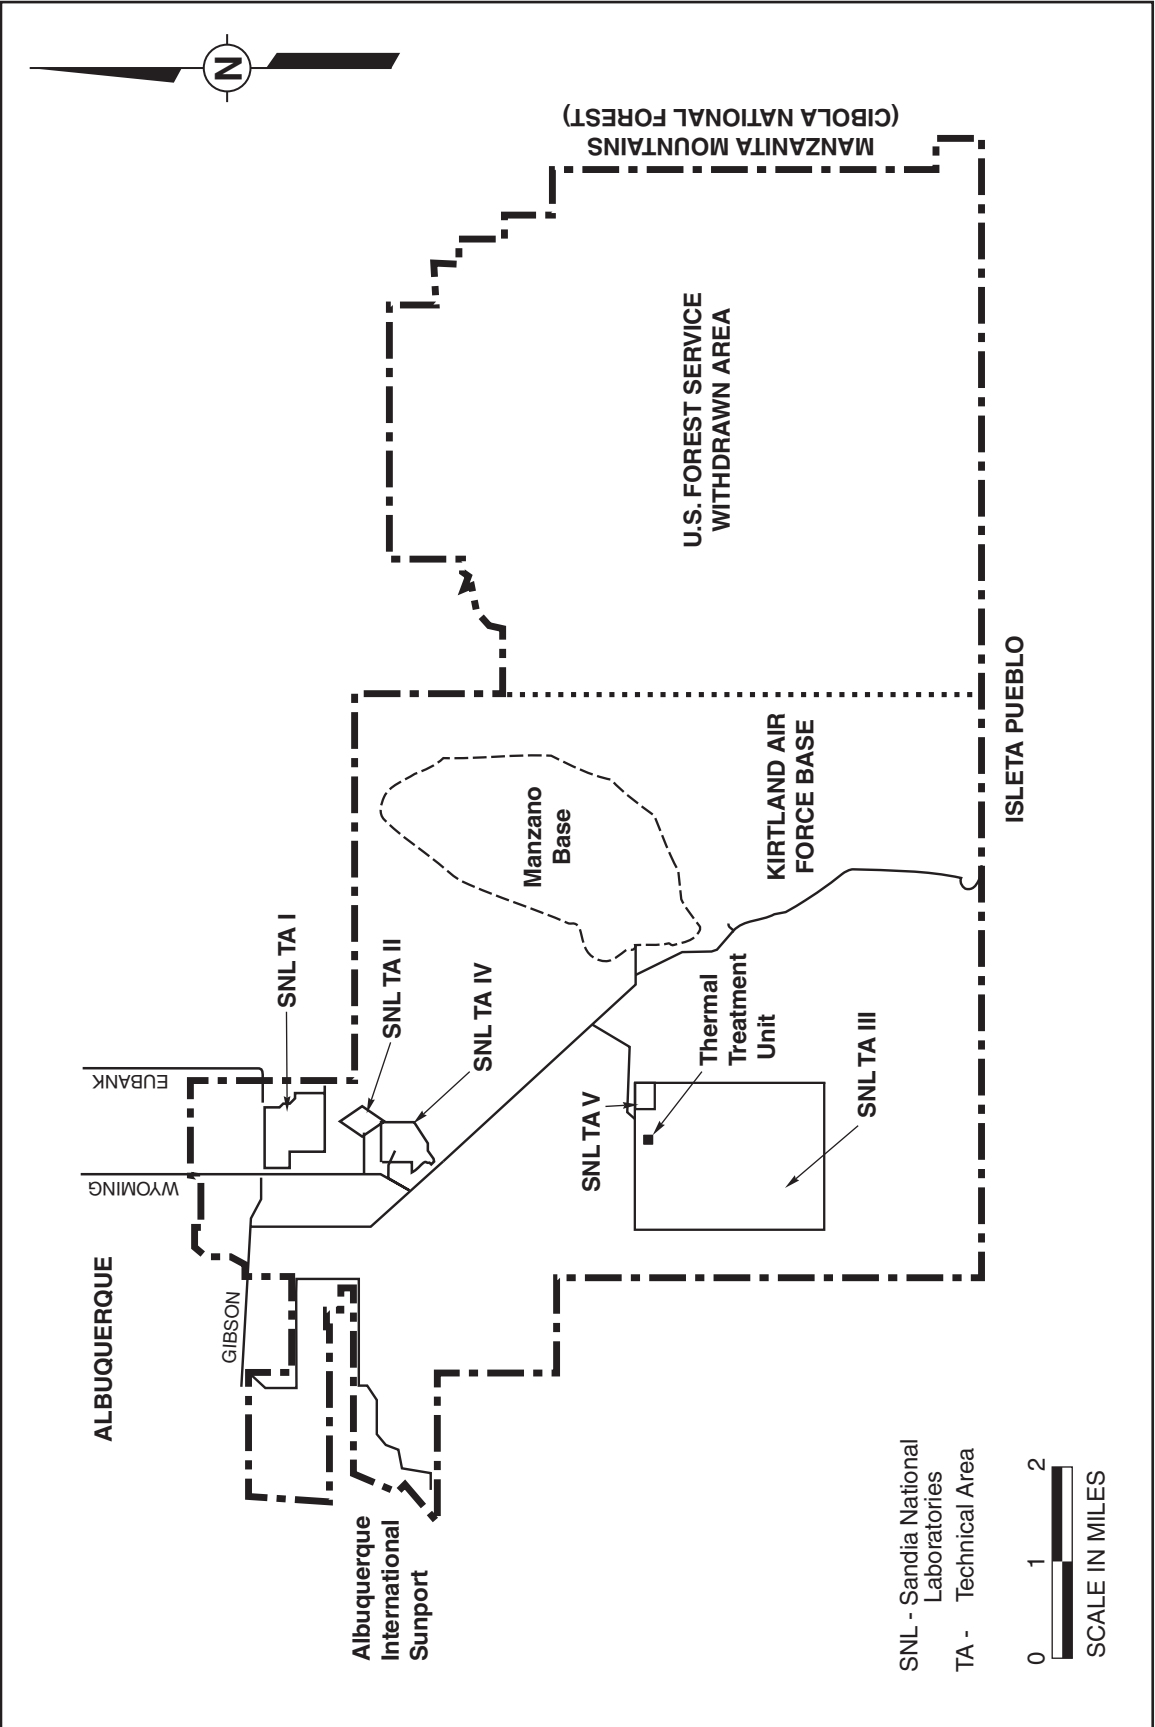

Figure 9
- Figure 9: Location of the Thermal Treatment Unit at the Facility